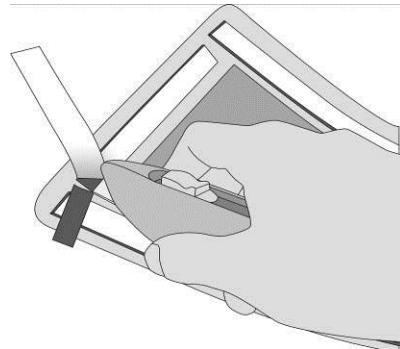

Figure 12.
- Cut foam tape at end of tape channel using a utility knife (figure 12).